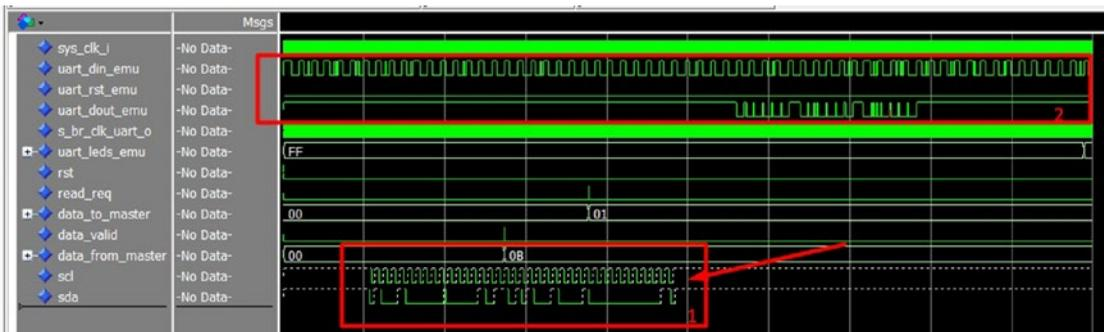

Figure 13-33. Simulation result
12. After 1 ms of simulation runtime. The ModelSim wave window looks like Figure 13-33. The red box # 2 is the UART interface. The red back # 1 is the I2C interface.